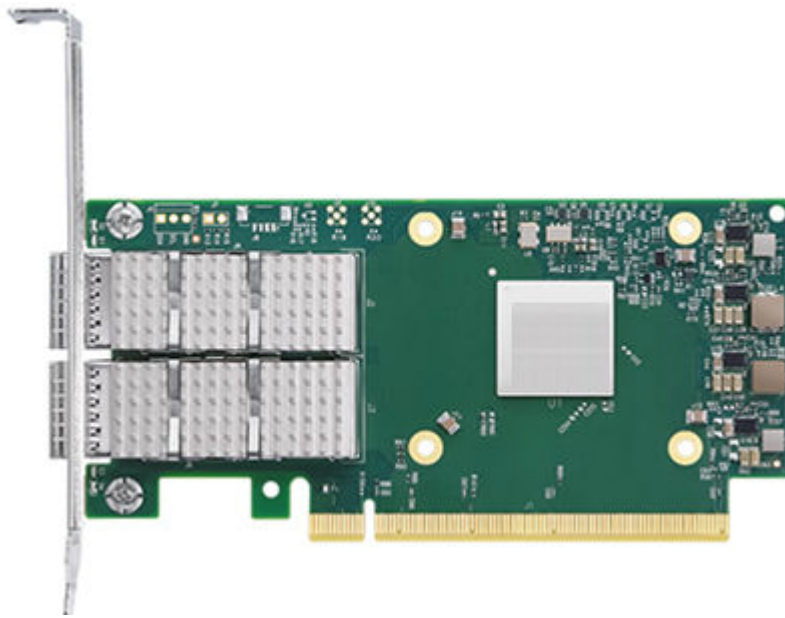

Figure 32. Alignment of the network adapter
- Align the replacement adapter with the PCIe socket of the adapter cage and press the adapter into place. Ensure that the adapter is fully seated in the riser, as shown in Figure 32 on page 72.